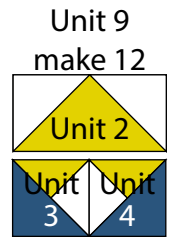

Fig. 14
9. Sew (1) Unit 3 square to the left side of (1) Unit 4 square. Sew (1) Unit 2 strip to the top of the newly sewn strip lengthwise to make (1) 6 1/2" Unit 9 square (Fig. 14). Repeat to make (12) Unit 9 squares total.